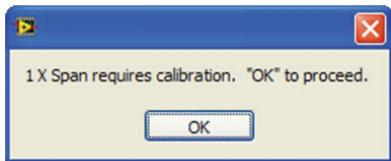

Figure 6.7
8. Next, the calibration software determines if the Span reading is within desired limits or not. If the Span reading is within desired limits, the software displays a message saying that the calibration is already within specifications. If the reading is not within the desired limits, then it displays a message as shown in Figure 6.7.
8. The calibration software determines if the Span reading is within desired limits or not. If the Span reading is within desired limits, the software displays a message saying that calibration is already within specifications. If the reading is not within the desired limits, it displays message similar to that in Figure 6.7.